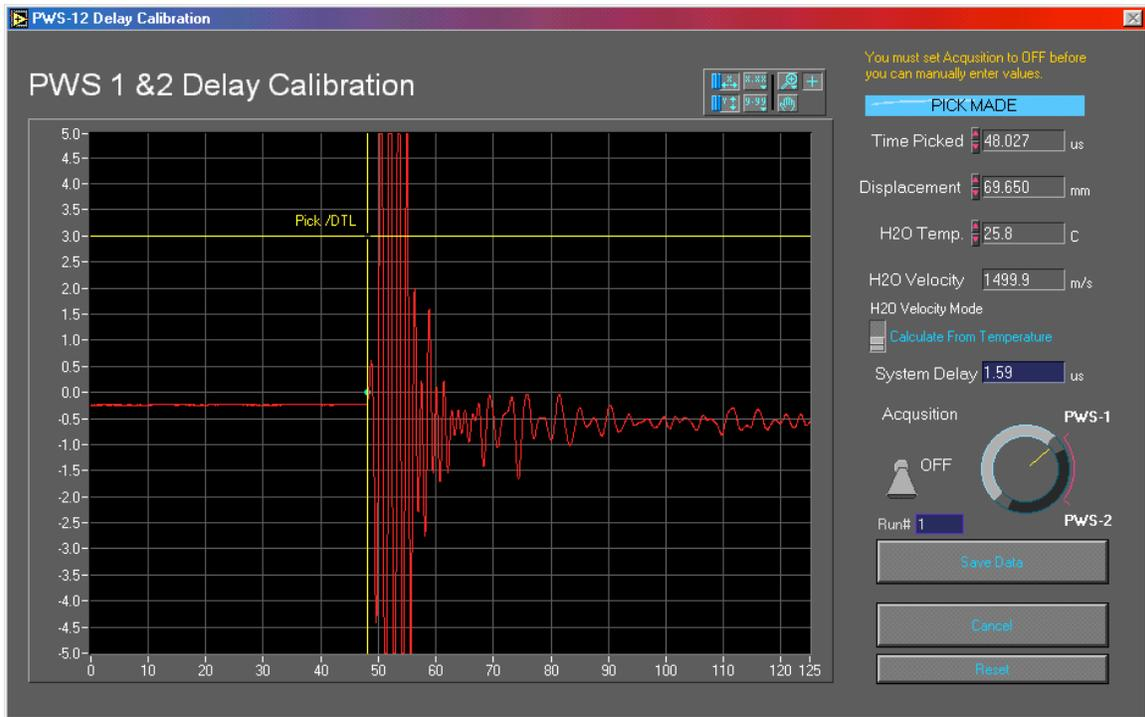

Figure 9. PWS1 & 2 Calibrations.
2. From this screen select CALIBRATE PWS1 & 2; Figure 9 will appear